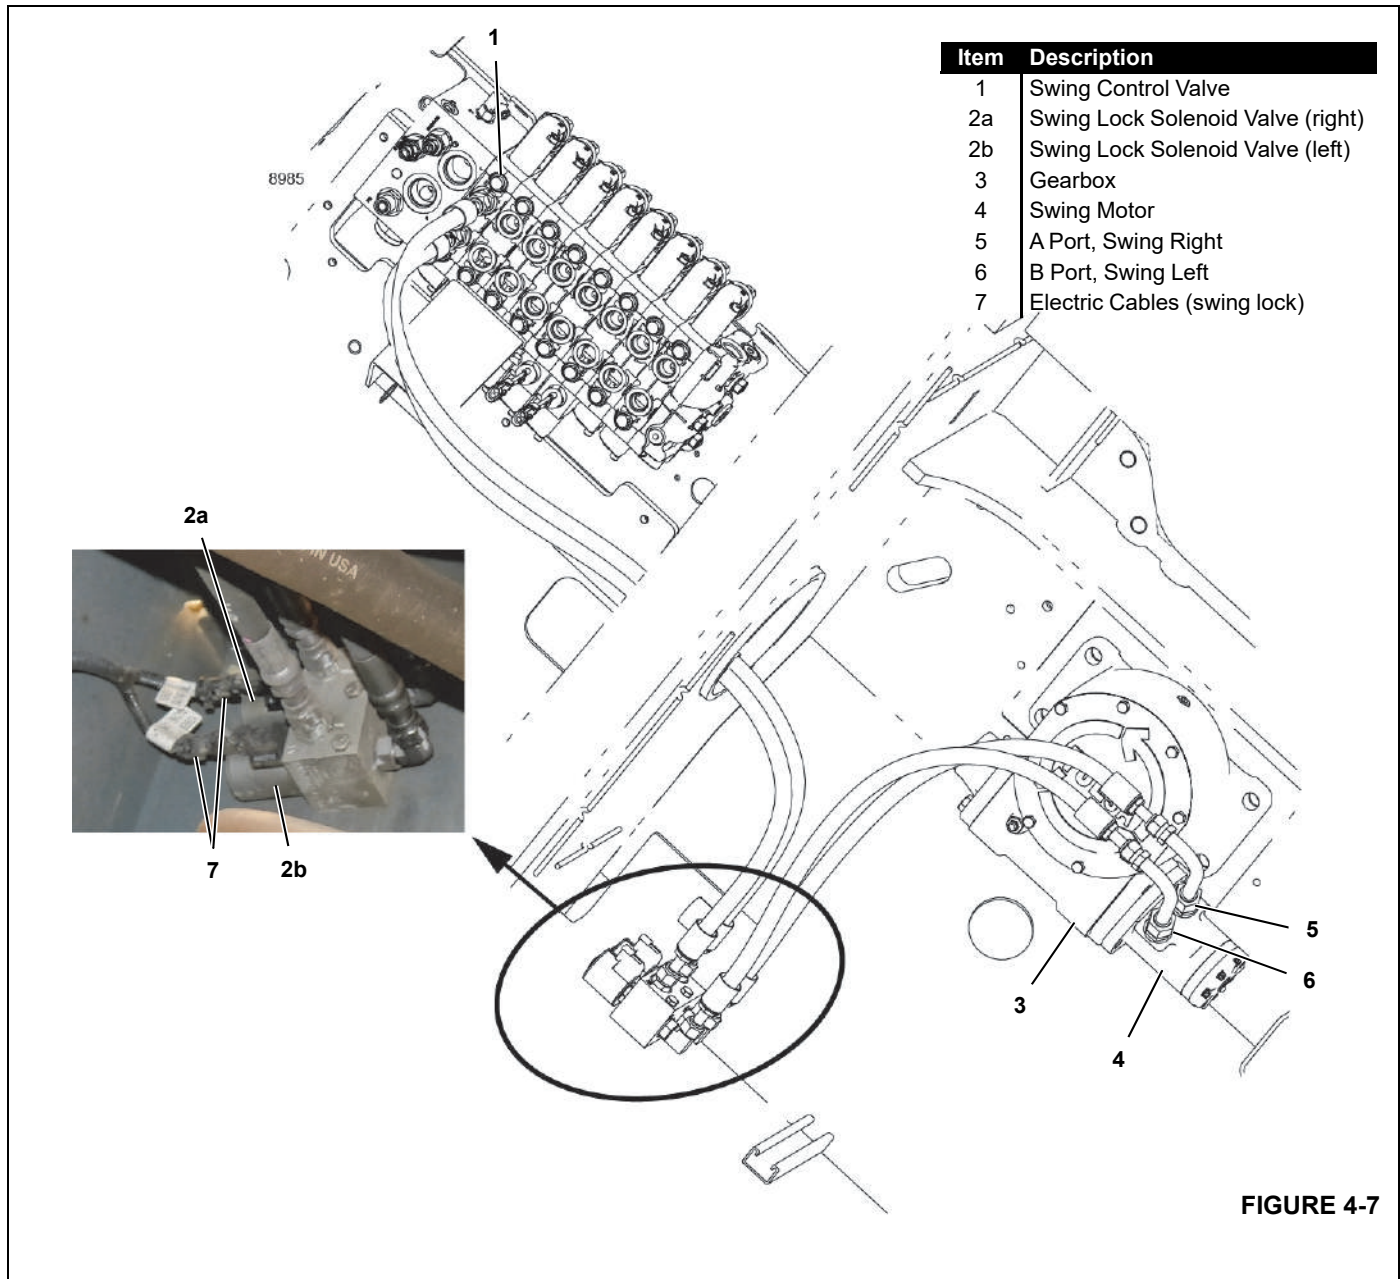

FIGURE 4-7
3. Disconnect both of the hydraulic hoses from the swing motor (4, Figure 4-7). Cap the adapters and plug the hoses.
3. Disconnect the electric cable (7, Figure 4-7) from both swing lock solenoid valves (2a and 2b).
5. Reconnect the electric cable (7, Figure 4-7) to both swing lock solenoid valves (2a and 2b).